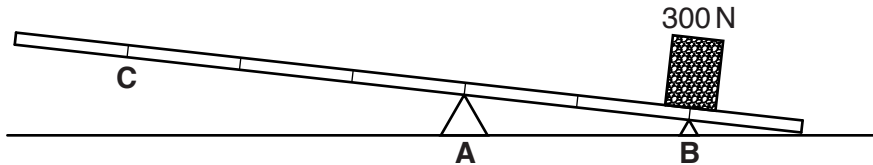

Fig. 1
- (b) (i) Fig. 1 shows a beam resting on support **A** with a load at one end above support **B**.